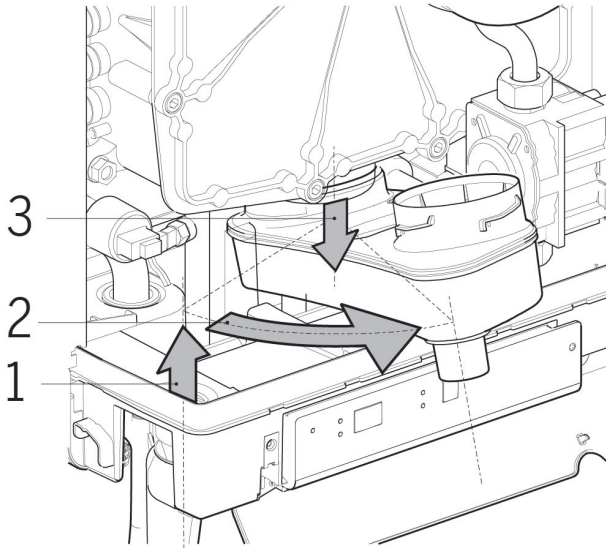

Fig. 4: Removal of Condensate Pan
7. Once the condensate pan is clear of the bottom jacket, rotate it towards the front of the appliance and push down on the rear to disengage from the heat exchanger as shown in Fig. 4.